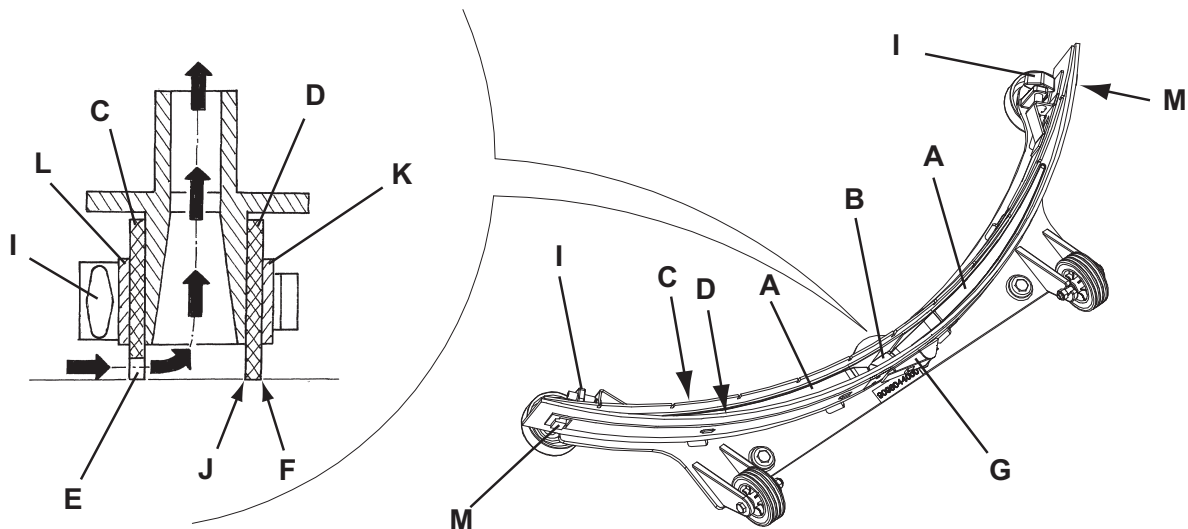

Figure 3
1. Clean the squeegee (Fig. 3) as shown in the previous paragraph.
2. Check that the edge (E, Fig. 3) of the front blade (C) and the edge (F) of the rear blade (D) lay down on the same level, along their length; otherwise adjust their height according to the following procedure:
- Remove the tie rod (G) and disengage the fasteners (M) to adjust the rear blade (D); then engage the fasteners and install the tie rod.
- Loosen the handwheels (I) and adjust the front blade (C); then tighten the handwheels.
3. Check the front blade (C) and rear blade (D) for integrity, cuts and tears; if necessary replace them as shown below. Check that the front corner (J) of the rear blade is not worn; otherwise, overturn the blade to replace the worn corner with an integral one. If the other corners are worn too, replace the blade according to the following procedure:
- Remove the tie rod (G), disengage the fasteners (M) and remove the retaining strip (K), then replace/overturn the rear blade (D). Install the blade in the reverse order of removal.
- Unscrew the handwheels (I) and remove the retaining strip (L), then replace the front blade (C). Install the blade in the reverse order of removal.